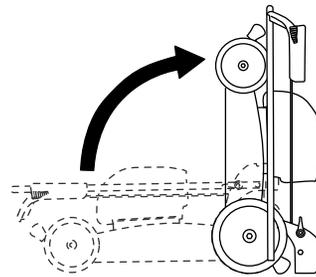

Figure 20
- Lift the front of the machine by the handle and move it into a storage space (Figure 20).